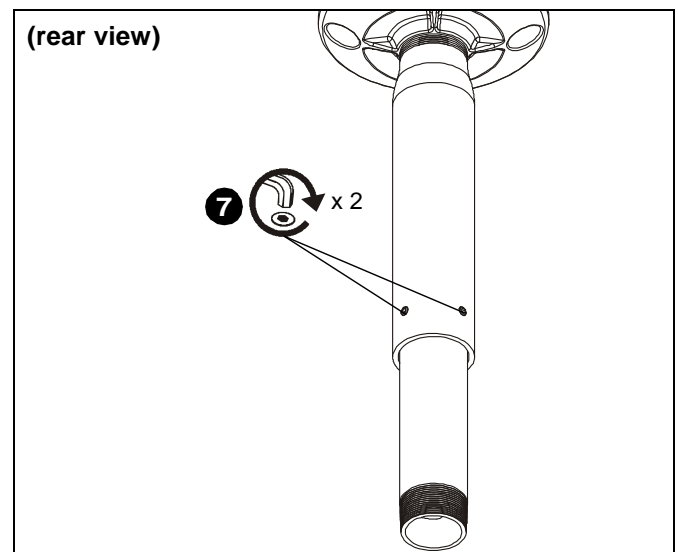

Figure 6
7. Tighten set screws on back of pipe using 3/16" key (B). (See Figure 6)